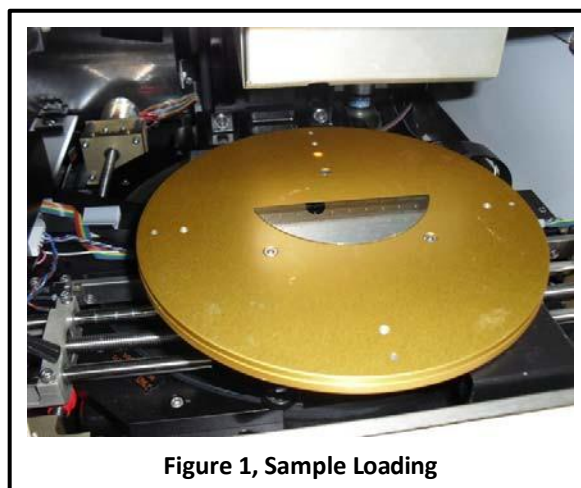

Figure 1, Sample Loading
6.3.2 Place sample in the middle of the chuck. See *Figure 1, Sample Loading*.